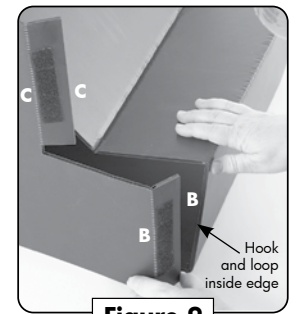
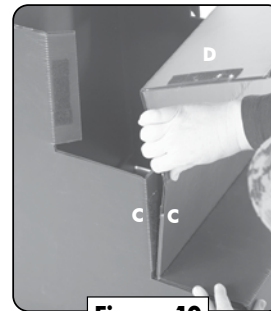

Figure 9
Figure 10
**9** Tuck the outer edge labeled B from **PANEL 1** into the open corner to meet the inside edge B of **PANEL 2**. **See Figure 9.** Attach hook and loop edges B from both panels to one another. Make sure the corners and edges are lined up and flush. Repeat this on the other side. Once both sides are flush, firmly adhere all hook and loop edges B to one another. Repeat this same pattern for both C and D. **See Figures 10 & 11.**
Tuck the outer edge labeled B from **PANEL 1** into the open corner to meet the inside edge B of **PANEL 2**. **See Figure 9.** Attach hook and loop edges B from both panels to one another. Make sure the corners and edges are lined up and flush. Repeat this on the other side. Once both sides are flush, firmly adhere all hook and loop edges B to one another. Repeat this same pattern for both C and D. **See Figures 10 & 11.**